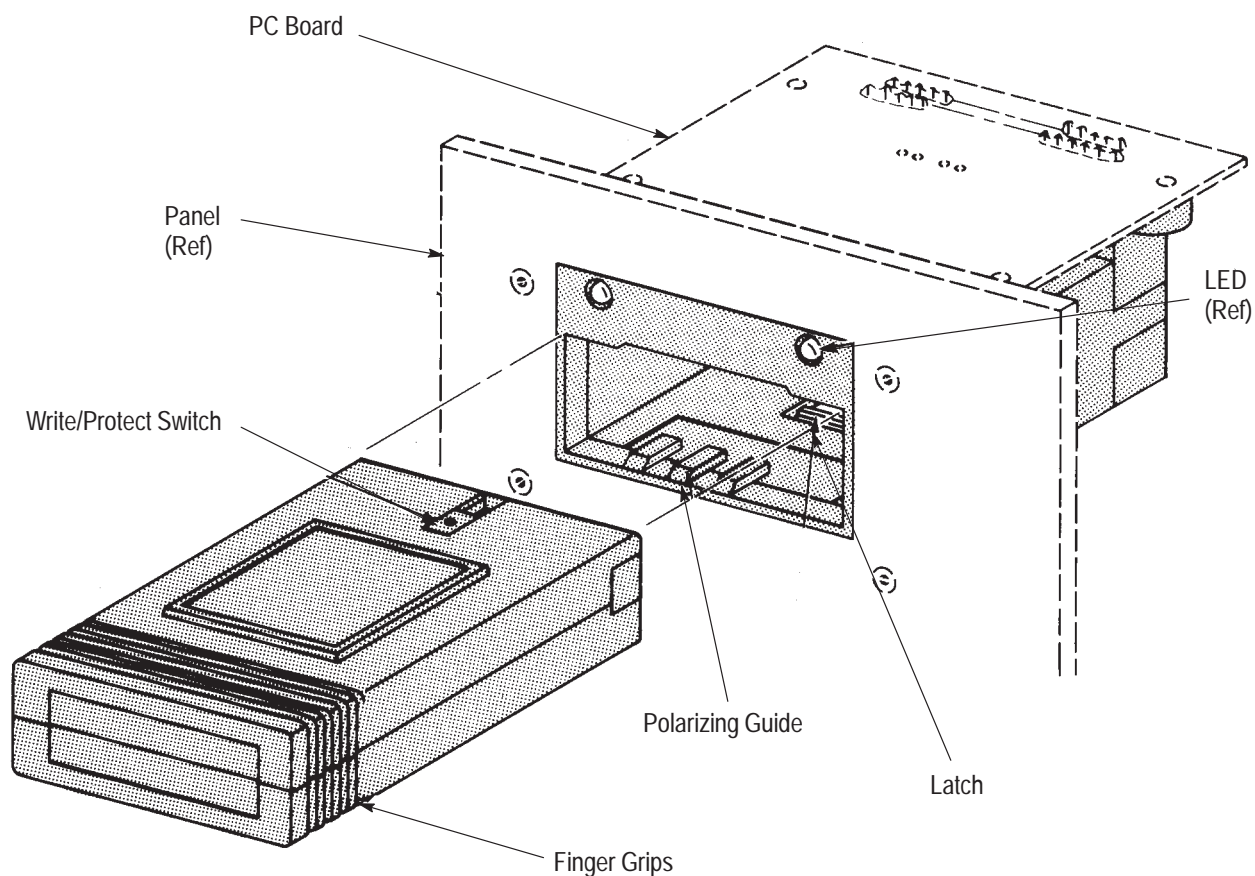

Figure 6
4. MATING AND UNMATING (Figure 6)